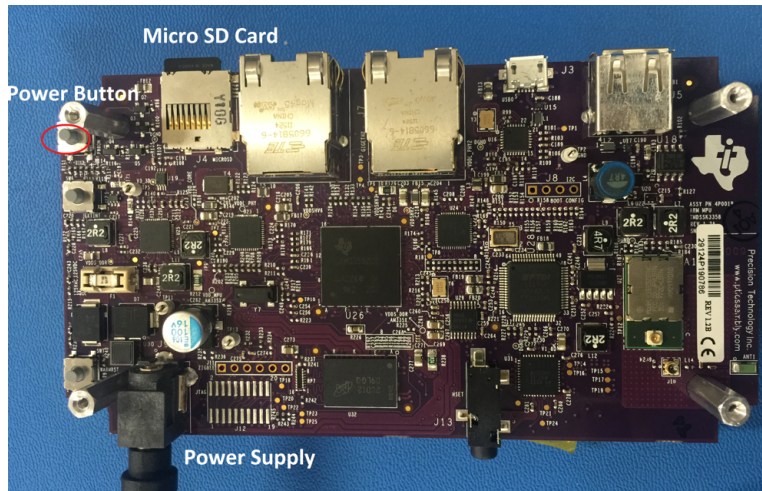

Figure 4. AM335x Starter Kit Setup (LCD Face Down)
1. Insert the micro SD card created in Section 3.1.2 in the location shown in Figure 4.
2. Insert the 5-V power supply and press the power button shown in Figure 4.